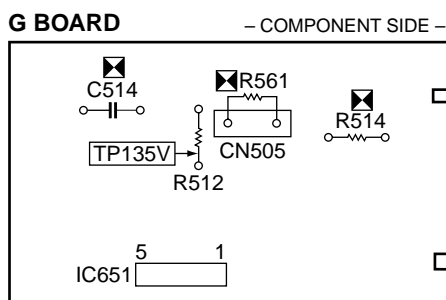

Fig. 4-2
5. If anode voltage is 30kV or lower, replace C514 of 390PF/2kV with that of 100PF/2kV, and check if the voltage is within the standard range. (Fig.4-2)
1. Repeat steps ① ~ ⑦ as above.
3. If hold down voltage is 32.5kV or lower, mount a resistor (220kΩ, 1/4W : RN) onto R561 and check again if the hold-down voltage is within the standard range. (Fig.4-2)
5. If step 4 is not satisfied, replace IC651 and repeat above steps. (Fig.4-2)
3. Connect a 220k Ω variable resistor, across pin ③ and pin ⑤ of IC651 set to maximum value.
6. Gradually turn the 220k Ω variable resistor, and check if OVP works properly when the voltage of TP135V is between 139.0 ~ 151.5V. **(Fig.4-2)**